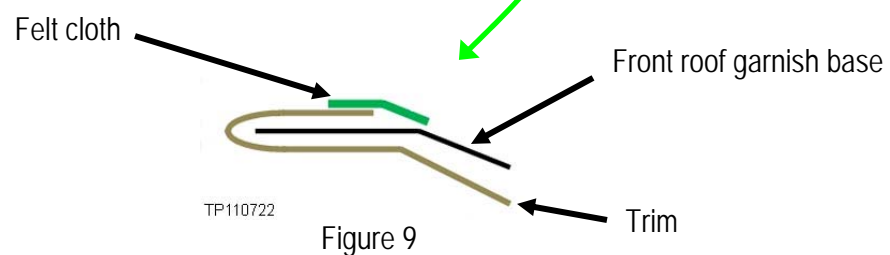

Figure 9
- Figure 9 shows side view (cutaway) of felt cloth position.